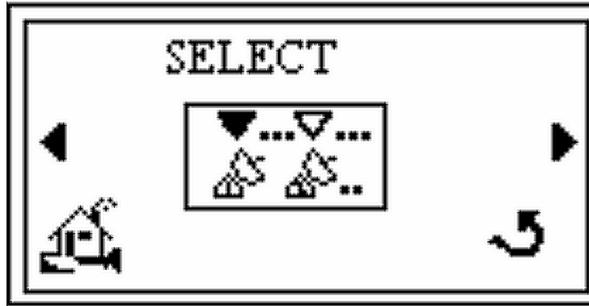

Figure 2-21 Select Screen
4. Press **Enter** and the *Select* screen appears (Figure 2-21).